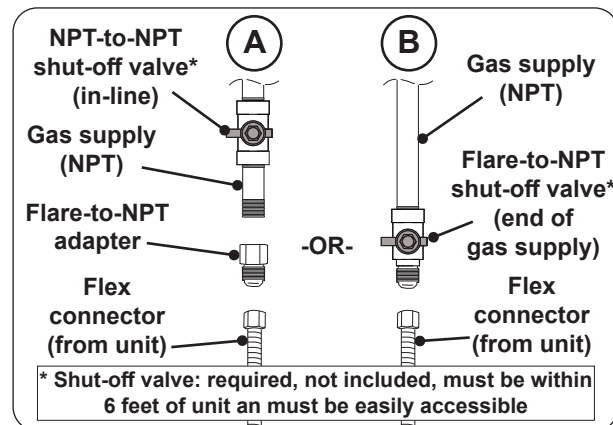

Fig. 23-2 Connecting to a gas line
- Install a flare-to-NPT adapter (not included) to the gas supply (NPT) using a pipe joint compound resistant to all gasses (see Fig. 23-2, A). Tighten securely.
- Connect the flex connector to the adapter (see Fig. 23-2, A). Tighten securely.
- Connect the flex connector to the shut-off valve (flare) (see Fig. 23-2, B). Tighten securely.